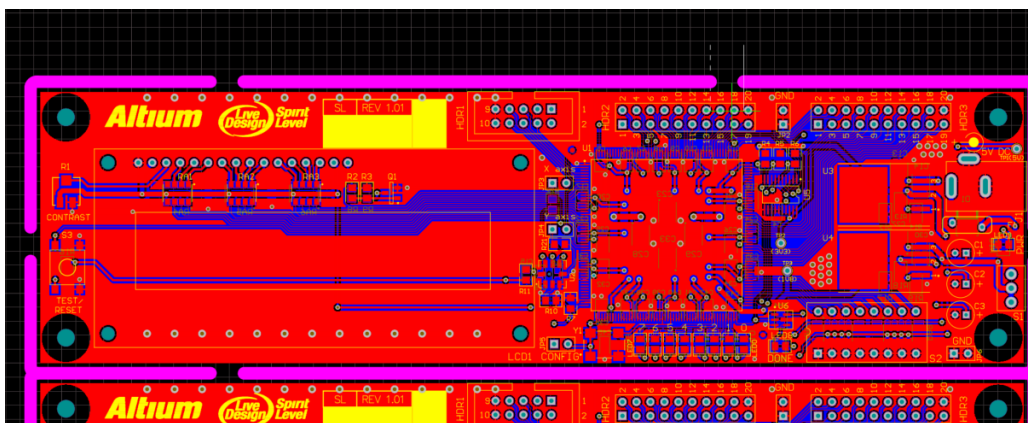

Figure 16. Position of the Slice Tracks cursor for second vertical cut
- 30. For the second vertical cut, move the cursor towards the top-right side of the first PCB instance as shown in Figure 16. We will start this cut near Pin 18 of component HDR2.